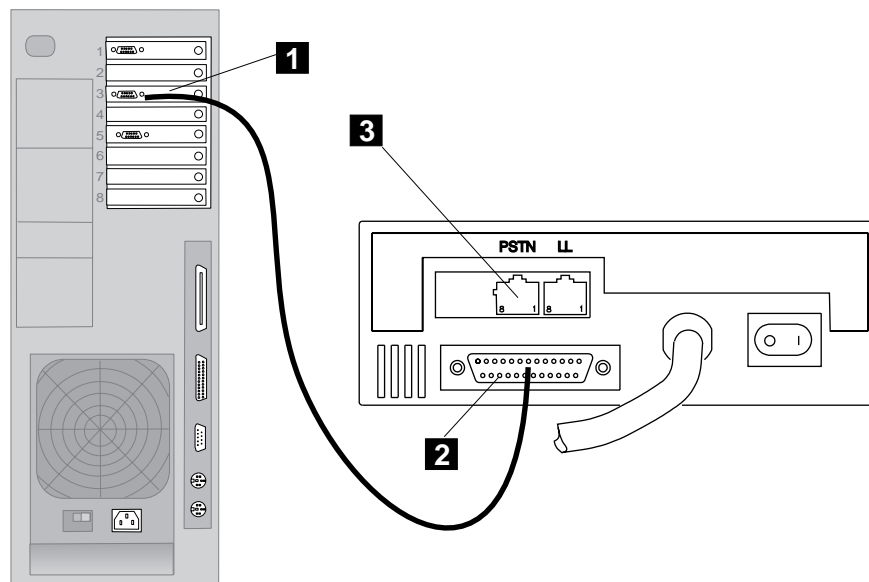

Figure 1-103. Connecting the Service Processor (9585) to the External RSF Modem
- **9585**, refer to Figure 1-103.